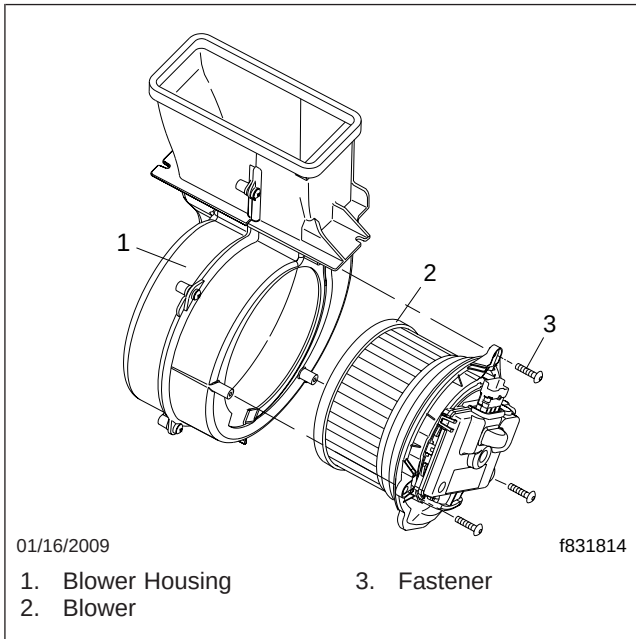

Fig. 6, Blower Installation
18. Remove the blower from the housing. See Fig. 6.